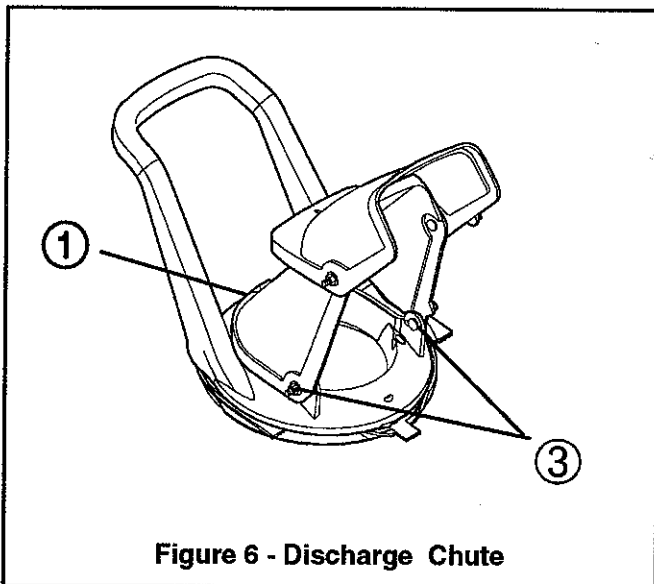

Figure 6 - Discharge Chute
3. Tighten hardware at rear of discharge chute first, then at sides. Figure 6.